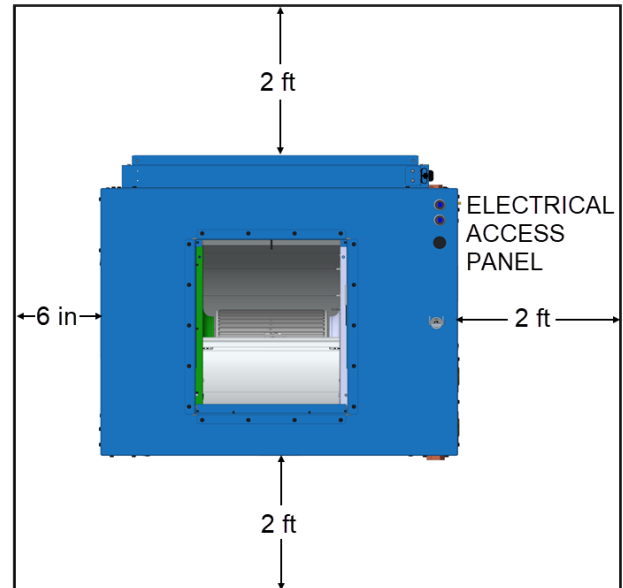

Figure 22: Top view with external clearances to unit
- Make sure that the air filter and electrical access panels are easily accessible. (See Figure 22.)
This appliance includes an integrated supplementary electric heater. Maintain the minimum clearances to combustible materials shown in Figure 22. Adhere to the minimum area requirements given in